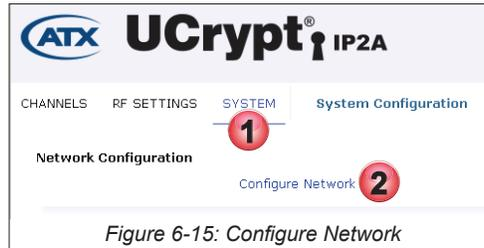

Figure 6-15: Configure Network
1. Click the **System** Tab if it isn't already selected, Figure 6-15.